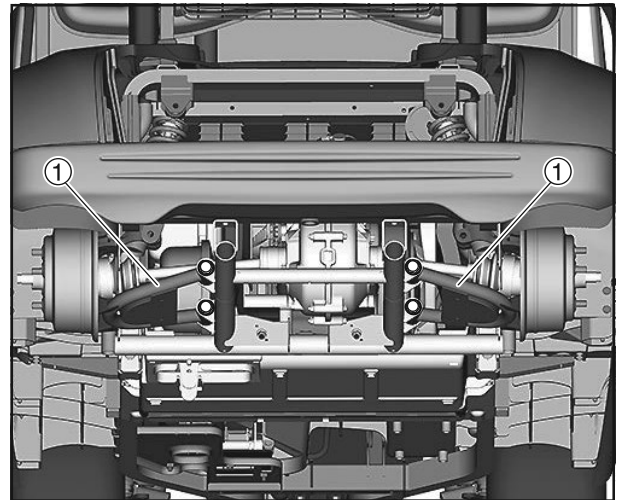

Figure 6-64
3. Remove the lower arm (Figure 6-64, (1)). See *REAR SUSPENSION COMPONENTS – EFI MODELS* on page 7-48.